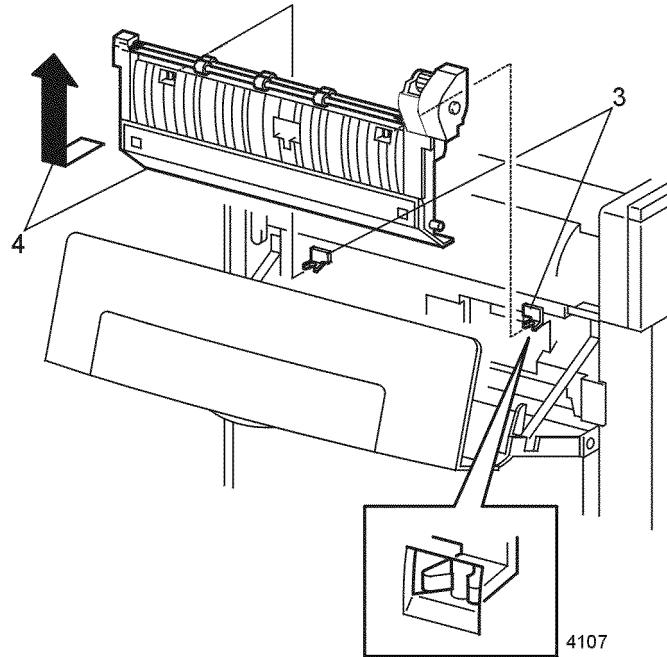

Figure 1 Duplex Assembly
3. Pull the top of the Duplex Assembly away from the printer to disengage the two hooks securing the unit (Figure 1).
4. Pull the Duplex Assembly out and up to remove (Figure 1).